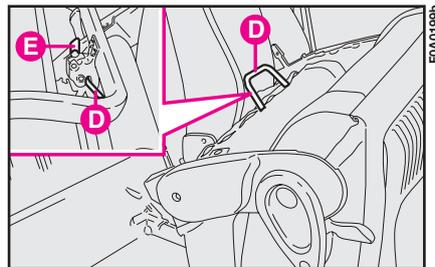

fig. 59
**Releasing the ladder:** press button **E**-fig. 59 to release the ladder from the handle **D**. Reposition the ladder in its original position. Tip the seat by lowering the cushion and lifting the seat back. Make sure that the seat is locked.